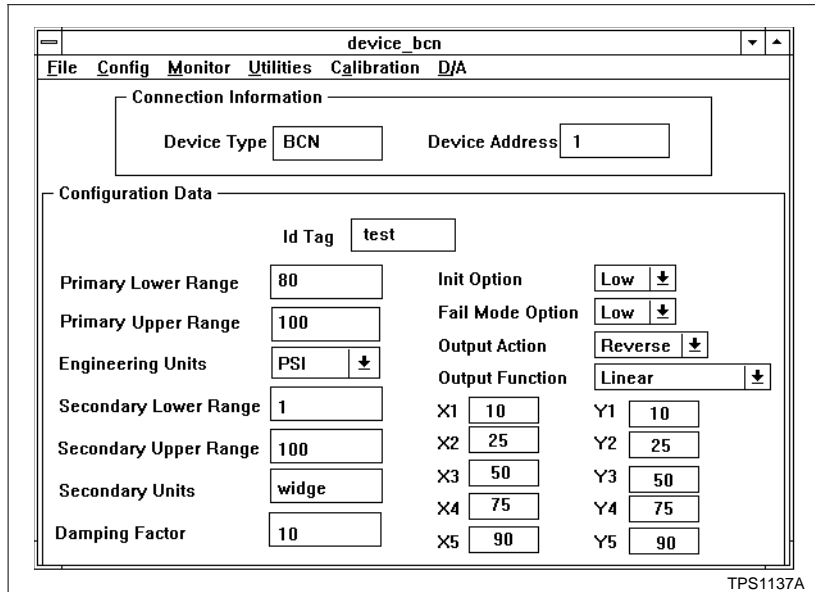

Figure 3-4. Device Data Window
3. Click on *Open*. A window appears displaying connection information and configuration data (Fig. 3-4).
- b. Select the desired device. The selected device is highlighted. Click on *Open* and a window similar to the one shown in Figure 3-4 appears.
- c. Click on *Open* and the window shown in Figure 3-4 appears.